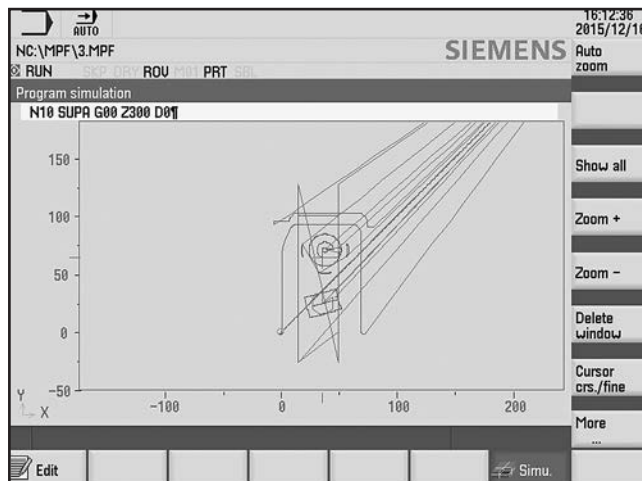

Figure 122. Part program simulation.
- Part program simulation is displayed as a detailed graphic showing current G-code coordinates (see **Figure 122**).